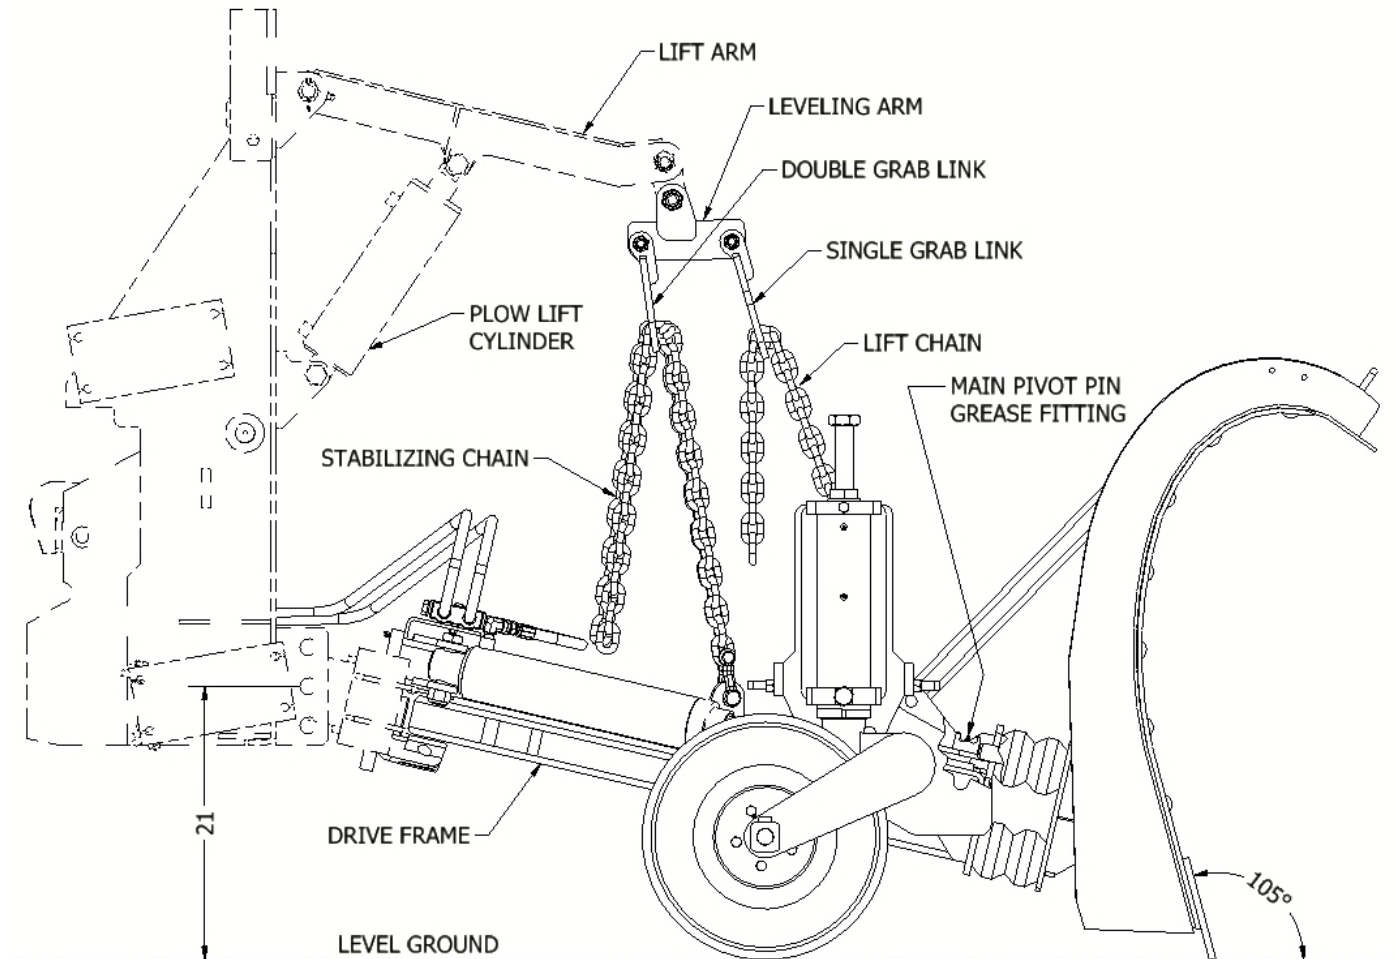
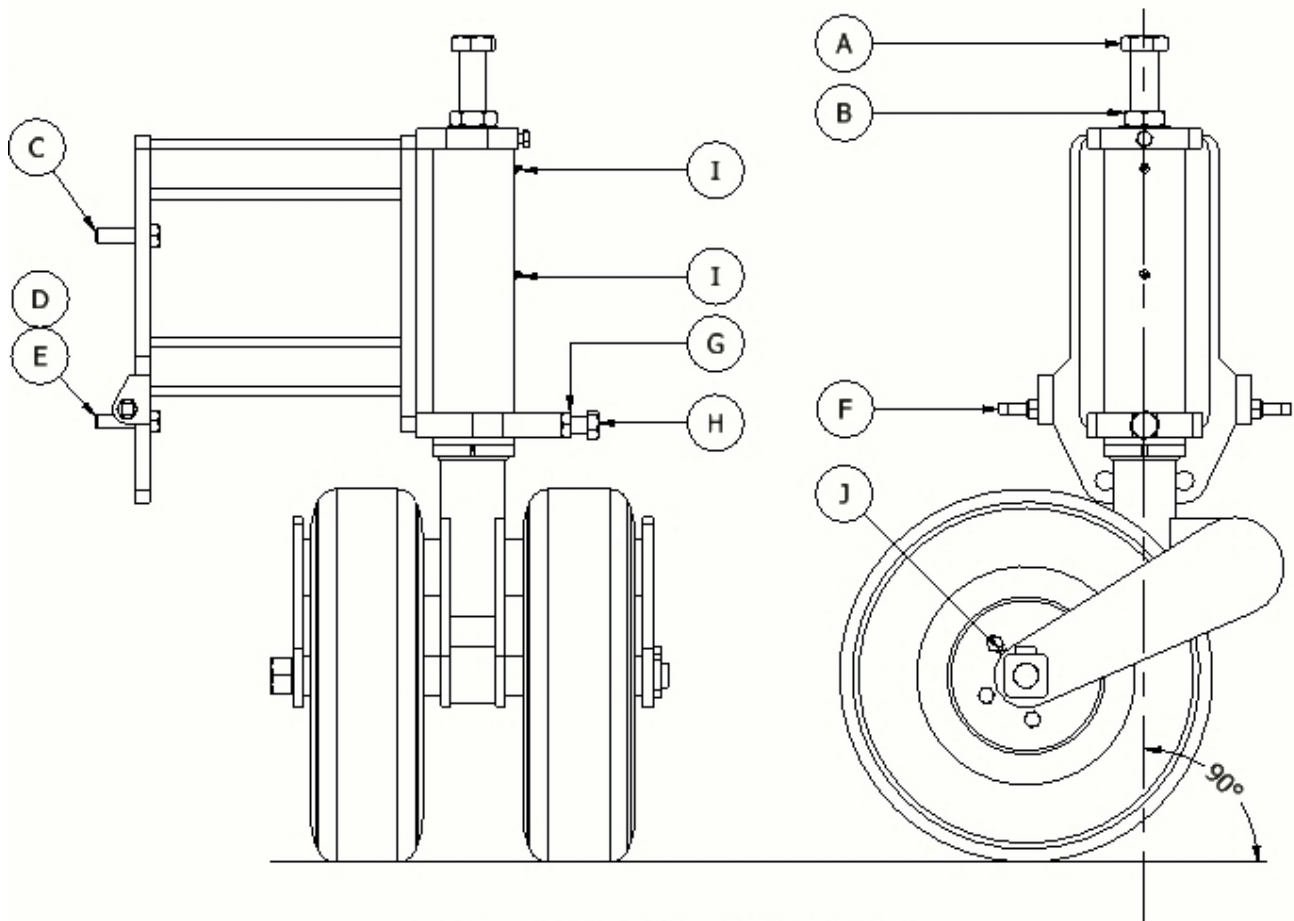

FIGURE 1: DRIVE HEIGHT AND LIFT CHAIN SETUP
FIGURE 2: CASTER ADJUSTMENT
During the initial installation of the plow to the vehicle, some adjustments will be necessary to insure proper operation of the plow and trip mechanisms. It is Viking-Cives recommendation that the plow is set to run at an approach angle of **105 degrees** with steel and carbide blades, as shown in figure 1. **NOTE: When plow is being raised, lowered or reversed - stand clear!**
1. Set plow unit on level surface with moldboard in the bulldoze position; adjust drive height to approximately 21" , as shown in figure 1, by adjusting the caster shoes up or down.
For proper performance of the casters it is important that the adjustment caster housing is perpendicular to the plowing surface as illustrated in Figure 2. To make this adjustment:
To adjust caster shimmy, proceed as follows (Refer to Figure 2):
There are 4 grease fittings on the caster assembly and one on the pushframe. Lubricate the main pivot pin, see figure 1 for location, and caster tube assembly, (Item I in figure 2). To lubricate wheel hubs (Item J in figure 2) use a hand grease gun to prevent applying excessive pressure on the seal and dust cap. Dust caps are fitted with 5 psi pressure plugs to prevent pressure build up and allow excess grease to escape.